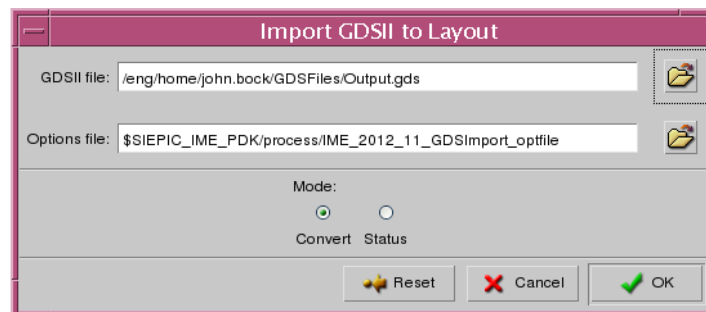

Figure 52: Import GDSII to Layout Dialog Box
3. In the field **GDSII file**, navigate to the location of the **.gds** file (see Figure 52) then click **OK**.